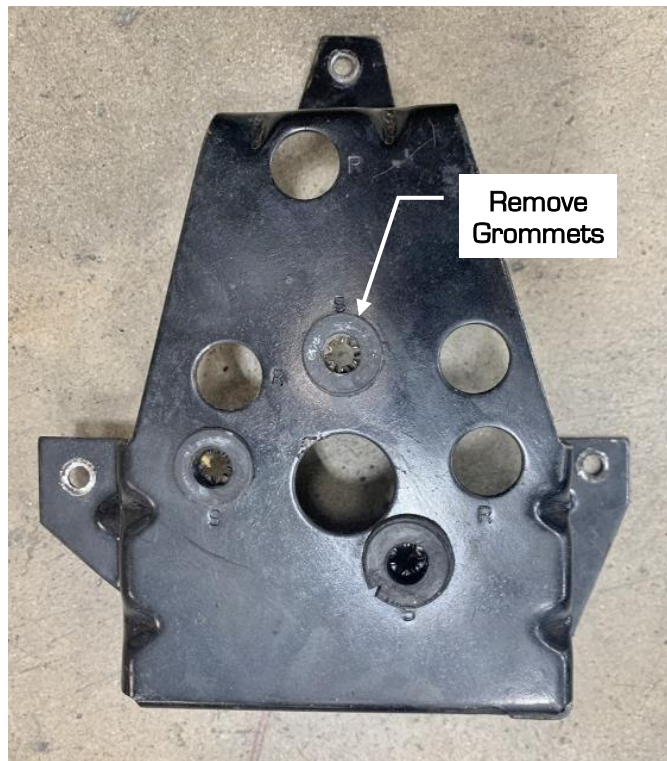

Figure 2 - Factory Wiper Motor Mounting Bracket
5. Remove the factory wiper motor and the factory star washers/grommets from the factory mounting bracket (Figure 2).